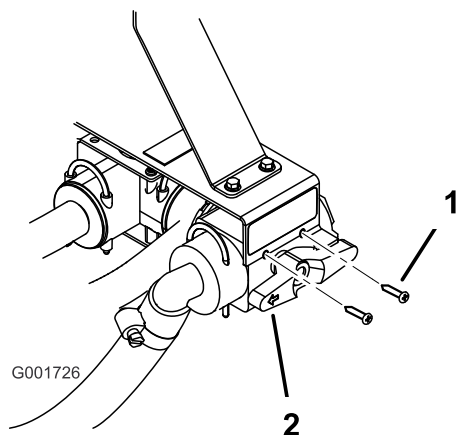

Figure 13
10. Secure the new control valve to the bracket using two screws (Figure 13).